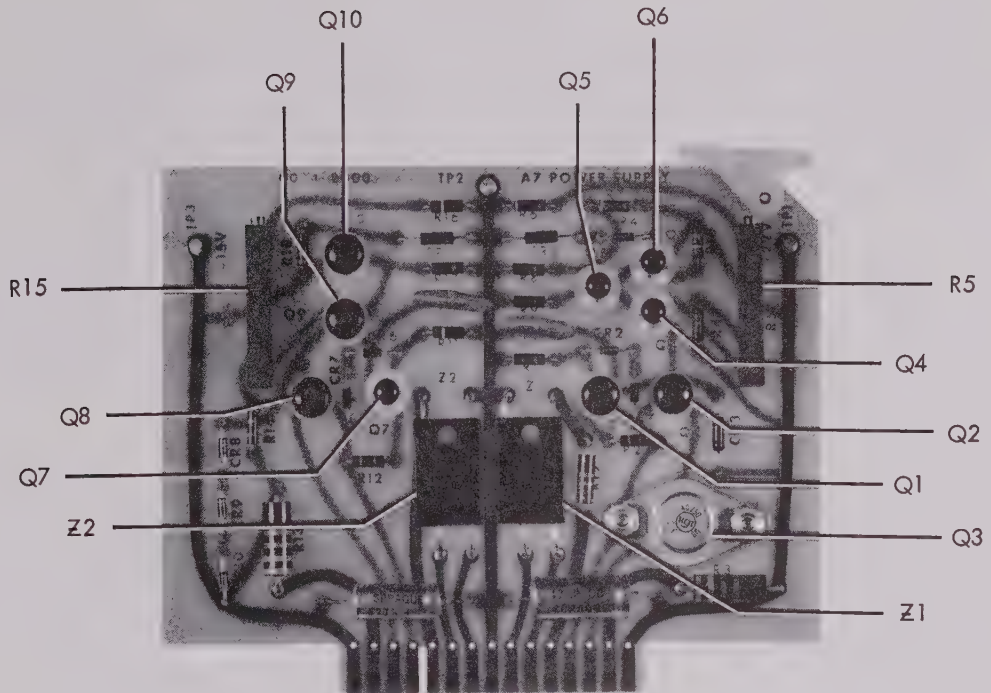
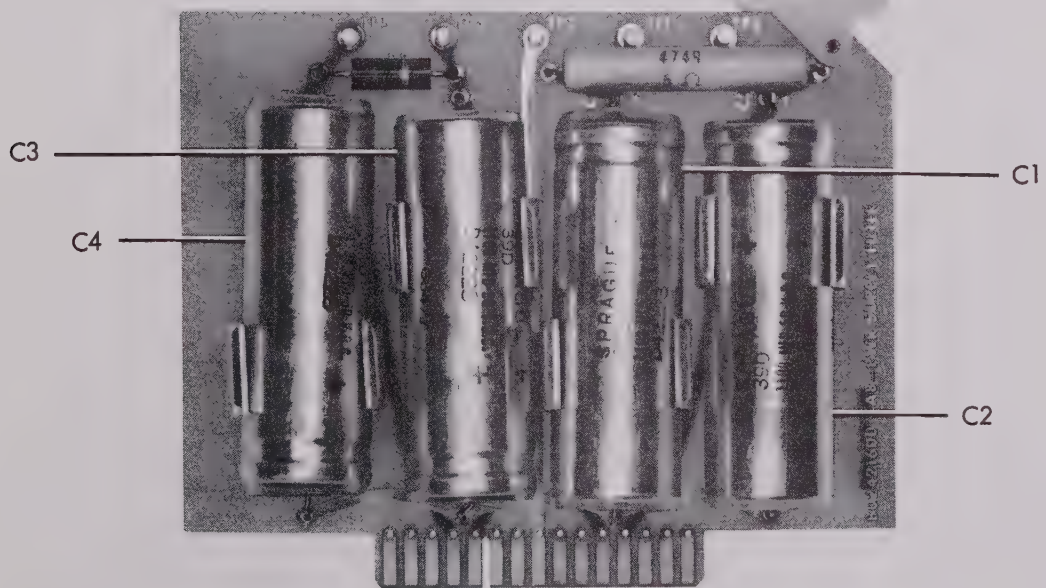

Figure 3-58. Board A7 Power Supply Regulators C02422600
Figure 3-59. Board A8 Power Supply Filters C02416000
j. Power Supply, Regulator and Filters, Modules A7, A8. Two secondaries of the power transformer, T1, are connected to the bridge rectifier units, CR1 and CR7, on Module A7 (See Figure 3-58) to furnish the required +22V and -15V dc. Output of the rectifiers is first filtered in the R-C low-pass Power Supply Filter. Module A8 (See Figure 3-59) and the passed through the Power Supply Regulators on Module A7.